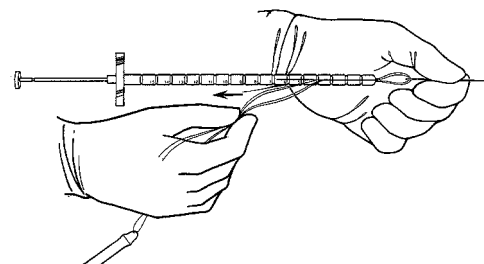

Figure 4-13. Load Keith Needle
4. Load the blunt end of this needle into the Furlow Insertion Tool (**Figure 4-13**) and place suture into into slot of the tool.